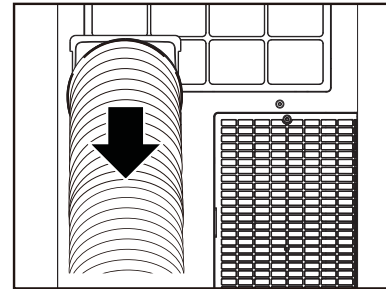

Fig. 3
- 2/ Slide the other exhausted connector (#12) to the air outlet (#6) on the rear of the unit (Fig 3)